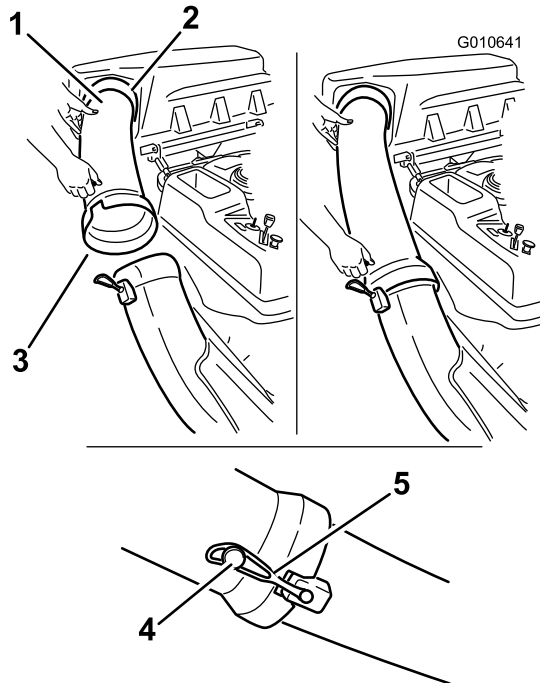

Figure 28
- Slide the curved end of the discharge tube into the opening in the bagger top (Figure 28).
- Slide the flared end of the discharge tube over the end of the chute. Move the rubber retaining strap on the chute over the peg on the discharge tube to secure it (Figure 28).